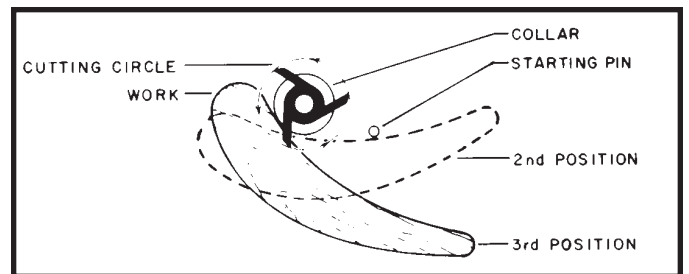

Fig. 70
4. After the cut has been started, the work is swung free of the starting pin and rides only against the collar as shown in the third position Fig. 70. **ALWAYS FEED AGAINST THE ROTATION OF THE CUTTER.**